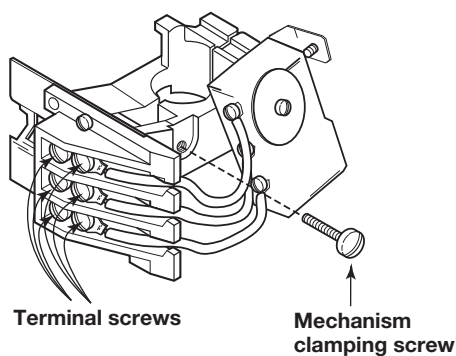

Figure 15
5. Vibration may sometimes cause terminal screws to loosen. Check all terminal connections to be certain that screws are tight. Refer to **Figure 15**.
NOTE: HS series switches use a cylindrical spacer in place of the baffle plate. Refer to **Figure 15** on page 13.